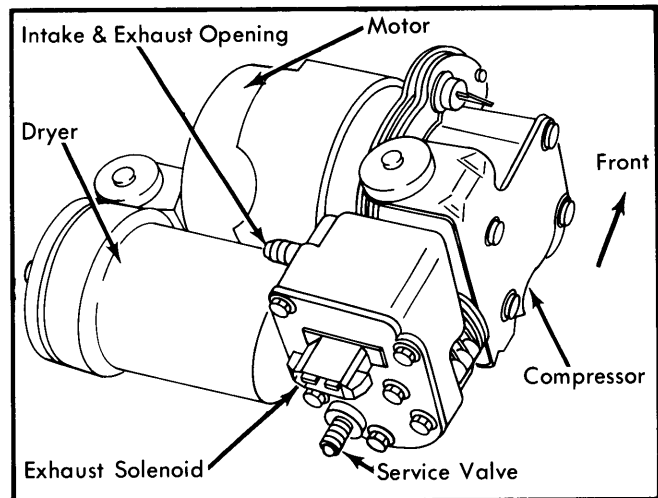

Fig. 1 Electronic Level Control Compressor
- 1) Disconnect wiring from compressor and exhaust solenoid terminals. See Fig. 1.